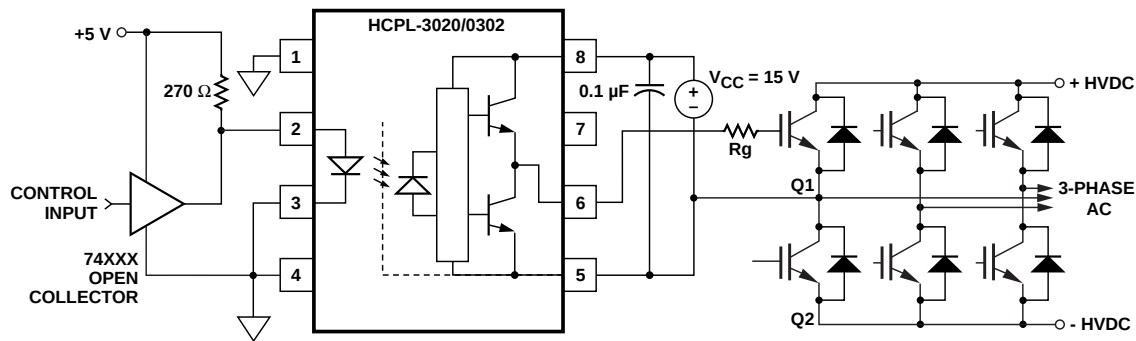
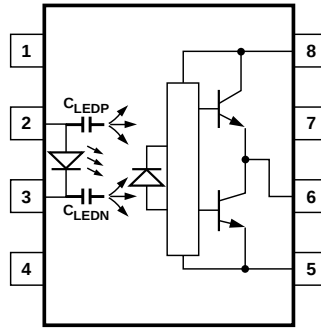
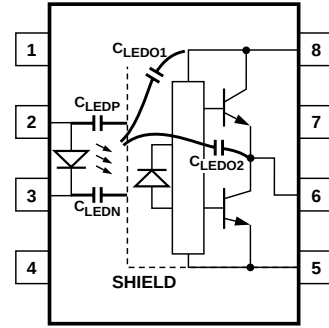
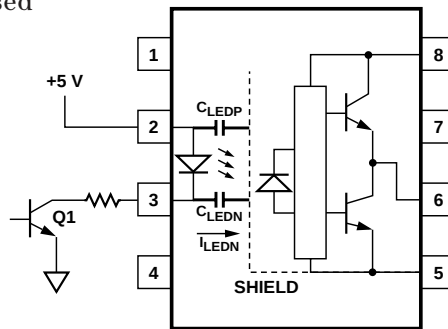

Figure 17. Recommended LED drive and application circuit for HCPL-3020 and HCPL-0302.
Figure 19. Optocoupler input to output capacitance model for unshielded optocouplers.
Figure 20. Optocoupler Input to output capacitance model for shielded optocouplers.
Figure 22. Not recommended open collector drive circuit.
a small PC board directly above the IGBT) can eliminate the need for negative IGBT gate drive in many applications as shown in Figure 17. Care should be taken with such a PC board design to avoid routing the IGBT collector or emitter traces close to the HCPL-3020 or HCPL-0302 input as this can result in unwanted
Step 1: Calculate R_g minimum from the I_{OL} peak specification. The IGBT and R_g in Figure 17 can be analyzed as a simple RC circuit with a voltage supplied by the HCPL-3020.
$K_{ICC} \cdot Q_g \cdot f$ is the increase in I_{CC} due to switching and K_{ICC} is a constant of 0.001 mA/(nC*kHz). For the circuit in Figure 17 with I_F (worst case) = 10 mA, $R_g = 57.5 \, \Omega$, Max Duty Cycle = 80%, $Q_g = 100 \, \text{nC}$, $f = 20 \, \text{kHz}$ and $T_{AMAX} = 85^\circ\text{C}$:
Without a detector shield, the dominant cause of optocoupler CMR failure is capacitive coupling from the input side of the optocoupler, through the package, to the detector IC as shown in Figure 19. The HCPL-3020 and HCPL-0302 improve CMR performance by using a detector IC with an optically transparent Faraday shield, which diverts the capacitively coupled current away from the sensitive IC circuitry. However, this shield does not eliminate the capacitive coupling between the LED and optocoupler pins 5-8 as shown in Figure 20. This capacitive coupling causes perturbations in the LED current during common mode transients and becomes the major source of CMR failures for a shielded optocoupler. The main design objective of a high CMR LED drive circuit becomes keeping the LED in the proper state (on or off) during common mode transients. For example, the recommended application circuit (Figure 17), can achieve 10 kV/ μ s CMR while minimizing component complexity.
The open collector drive circuit, shown in Figure 22, cannot keep the LED off during a $+dV_{CM}/dt$ transient, since all the current flowing through C_{LEDN} must be supplied by the LED, and it is not recommended for applications requiring ultra high CMR₁ performance. The alternative drive circuit, which likes the recommended application circuit (Figure 17), does achieve ultra high CMR performance by shunting the LED in the off state.